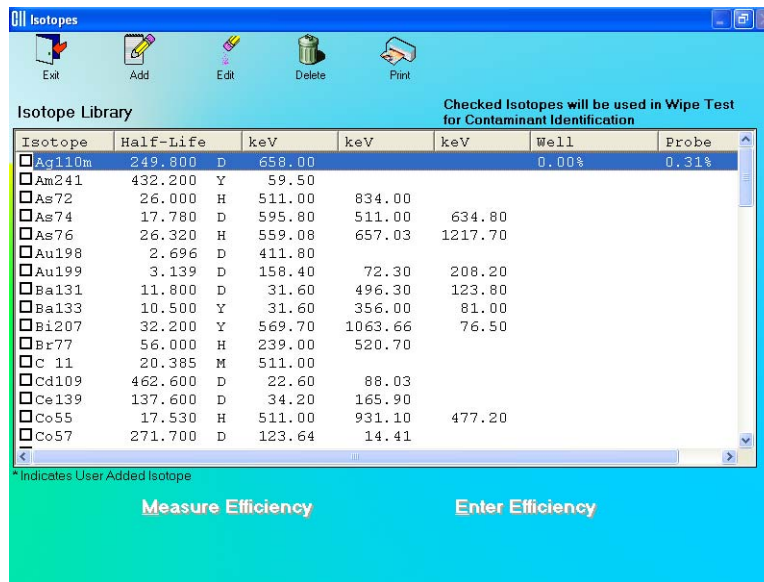

Figure 6-1 Isotopes Main Screen
To access the Isotopes module, click the  button or press *Alt+/* on the CAPTUS 3000 Main screen. Figure 6-1 Isotopes Main Screen will appear.
1. Click the  icon on Figure 6-1 Isotopes Main Screen. Figure 6-2 will appear.
- If the isotope to be edited is out of view in the **Isotope Library** box on Figure 6-1 Isotopes Main Screen, scroll up or down the list in **Isotopes Library** box using the scroll bar or use *Page Down*, *Page Up*, *↑* and *↓* keys or press the first letter of the isotope to bring it into view.
5. Click the **Done** button or press *Alt+D* to save changes or click the **Cancel** button or press *Alt+C* to cancel the changes and return to Figure 6-1 Isotopes Main Screen.
1. If the isotope to be deleted is out of view in the **Isotope Library** box on Figure 6-1 Isotopes Main Screen, scroll up or down the list in **Isotopes Library** box using the scroll bar or use *Page Down*, *Page Up*, *↑* and *↓* keys or press the first letter of the isotope to bring it into view.
- If the isotope to be measured is out of view in the **Isotope Library** box on Figure 6-1 Isotopes Main Screen, scroll up or down the list in **Isotopes Library** box using the scroll bar or use *Page Down*, *Page Up*,  $\uparrow$  and  $\downarrow$  keys or press the first letter of the isotope to bring it into view.
7. Click the **Start Procedure** button or press *Alt+S* to start measurements. Alternatively, click the **Exit** button or press *Alt+E* to return to Figure 6-1 Isotopes Main Screen.